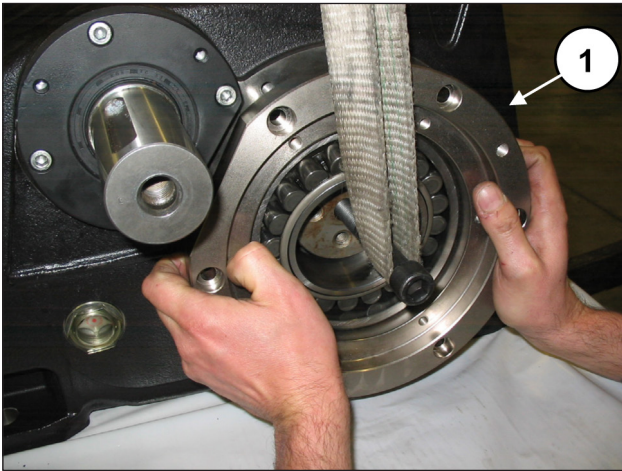
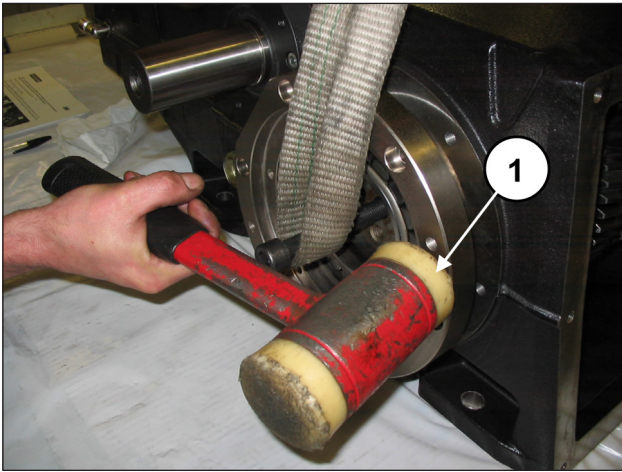

Fig. 72
Fig. 73
Apply two M16 threaded pins to the end of the crankshaft and, while keeping it raised (pos. ①, Fig. 72), insert the bearing support cover complete with bearing and O-ring (pos. ①, Fig. 73) using an extractor hammer. Repeat the operation on the other side